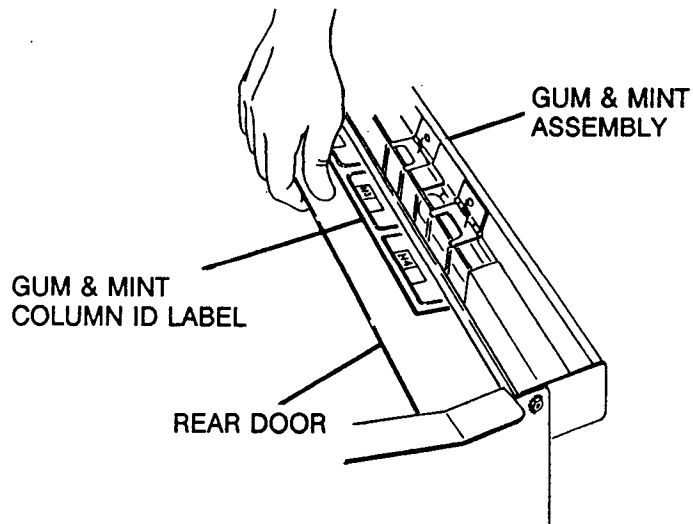

FIGURE 9. Gum & Mint Column ID Label Mounting
2. Position the label on the rear delivery door as shown in Figure 9. Press firmly on the label and rub from end to end to remove any bubbles of trapped air.